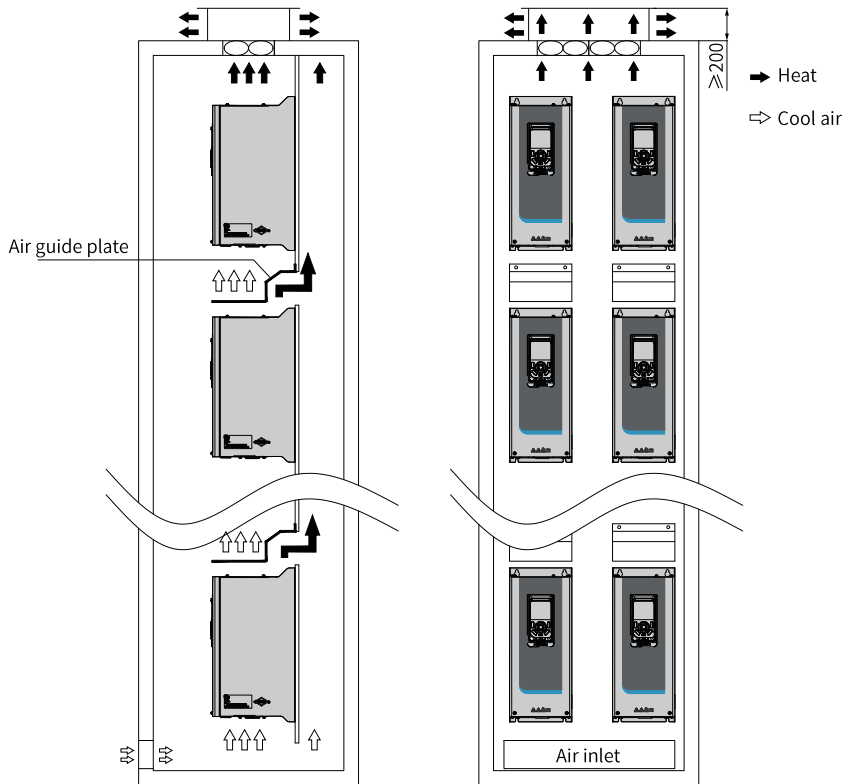

Figure 2-9 Cabinet ventilation system
- Ensure that the distance between the top cover of the air outlet and the fan outlet is at least 200 mm, as shown in "Figure 2-9 Cabinet ventilation system" on page 25. Otherwise, the fan cooling performance may deteriorate.